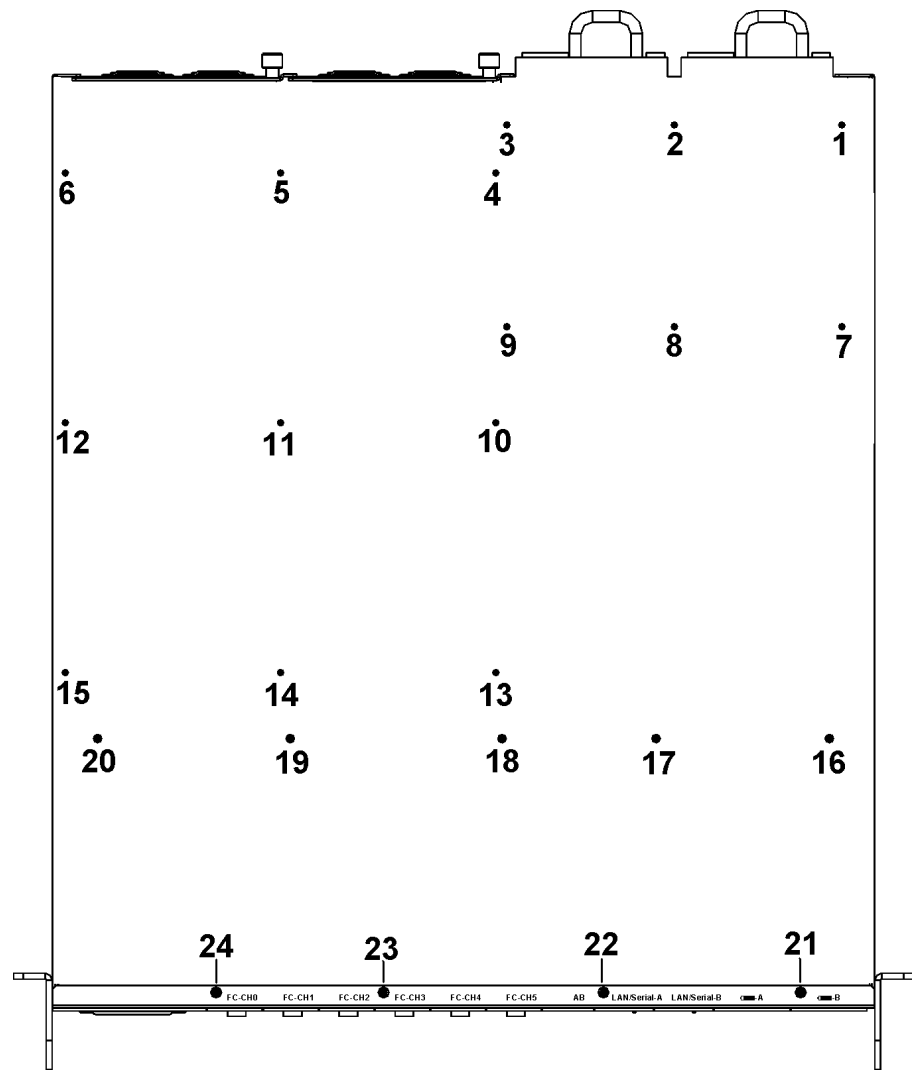

Figure 6-1: Retention Screw Locations
**Step 1. Remove the retention screws** - The top cover is connected to the controller head with 30 retention screws, 24 of these are found at the top (see **Figure 6-1** below) and 6 (3 on either side) are found on the sides. (Please note that four of the retention screws, screws 21 to 24 in **Figure 6-1** below, are used to connect the front panel to the top cover and the chassis.)
**Step 3. Re-insert the retention screws** - Re-insert all 30 retention screws. 24 of these screws should be inserted into the top of the controller head and a further 6, 3 on either side, should be inserted into the sides. The locations of the retention screws on the top of the cover are shown in *Figure 6-1* above.